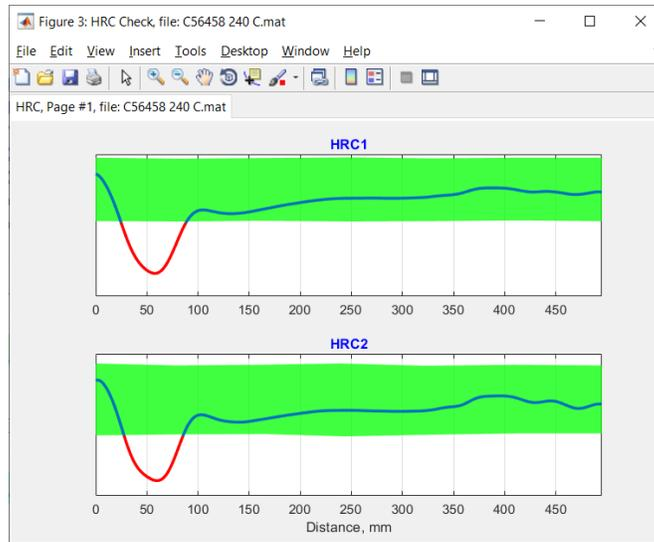

Figure 113. Part Exhibiting Locally Low Surface Hardness.
- **Example 3:** Highlights a part with locally low surface hardness, pointing out areas on the part that fall short of the hardness requirements, potentially indicating uneven material treatment or localized defects. (Figure 113)